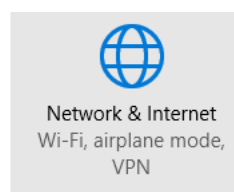

Figure 8.4: Network & Internet icon in Windows® 10 Settings panel
- By clicking **Start ► Settings ► Network & Internet** (see Figure 8.4 on page 126).